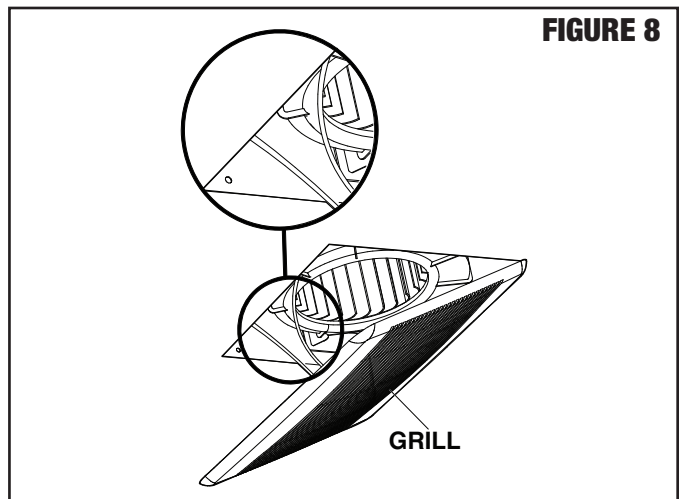

FIGURE 8
8. MOUNTING THE GRILL (FIGURE 8)